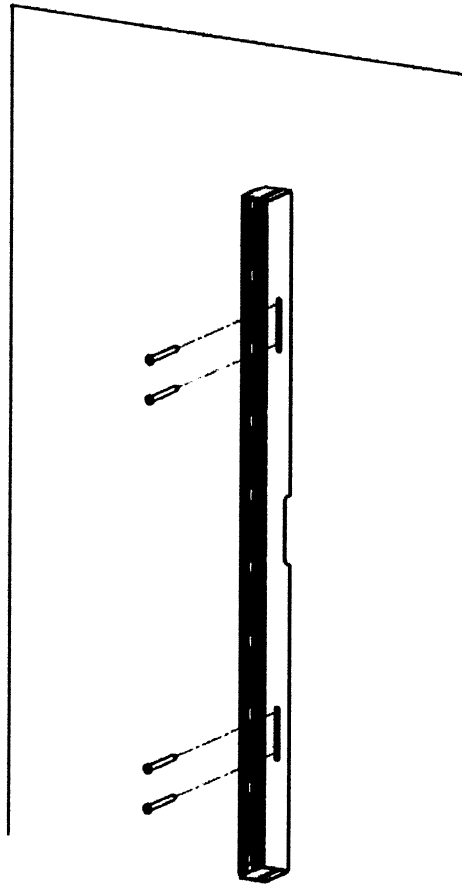

FIGURE 14
3. The LCR DM Brackets have two slots cut through the rear of the part which will function as a surface mount bracket. Refer to **FIGURE 14**.